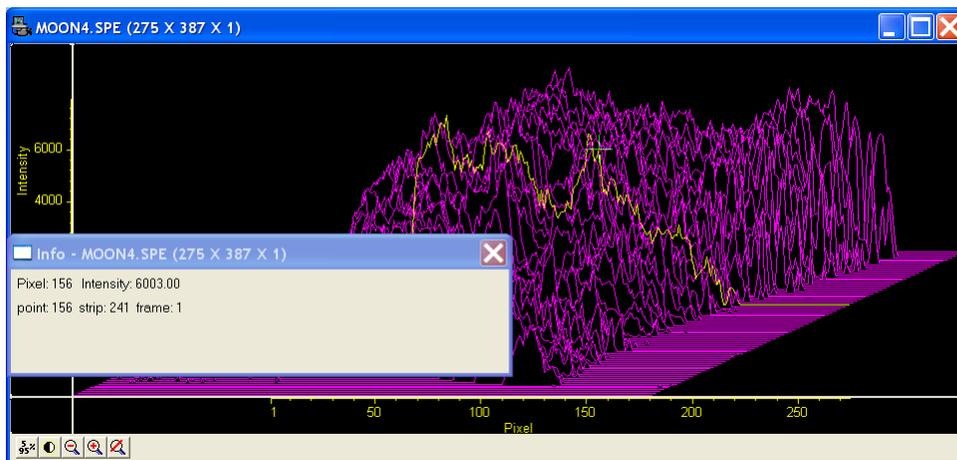

Figure 61. 3D display with Cursor Curve and Marker Curves
1. On the **3D Layout** tab, select **Highlight Cursor Curve** and **Marker Curves On**. Then press **OK**. The cursor curve and marker curves should be clearly delineated. Note that on a color monitor they would be in contrasting colors and much easier to see than in a black and white print (Figure 61).